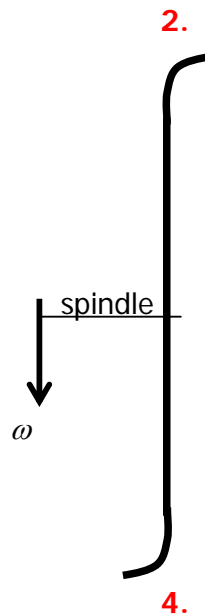
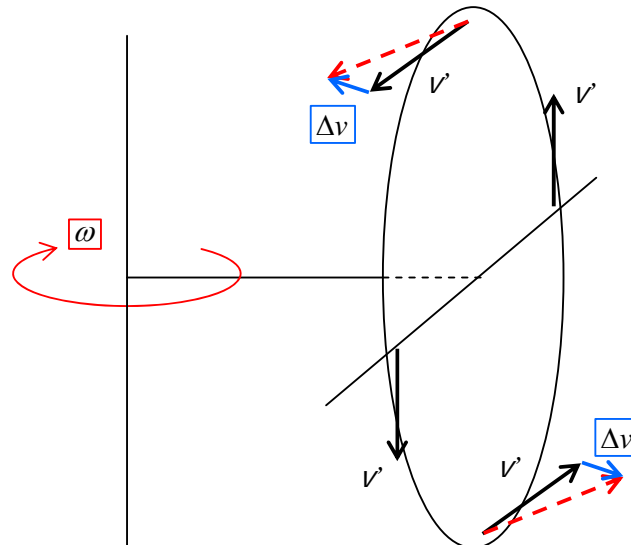

Figure 3
Figure 5
2. v' perpendicular to ω , direction of F_{cor} : see Figure 2A. This F_{cor} adds to F_{cf} . In general $F_{cor} \gg F_{cf}$, so there is a large F pointing outwards, in magnitude almost equal to F_{cor} . (See the result on point 2. in Figure 3).
4. v' perpendicular to ω , direction of F_{cor} see Figure 2 B. $F_{cf} \neq 0$. F_{cor} is opposing F_{cf} . In general $F_{cor} \gg F_{cf}$, so there is a large F pointing inward, in magnitude almost equal to F_{cor} . (See the result on point 4. in Figure 3.)
But due to ω of the demonstrator v' in position 2. and 4. **changes direction** appreciably. **Forces are needed for that.** Figure 5 shows how v' changes direction in position 2. and in position 4.
The two Δv 's in that Figure 5 also show the directions of the forces needed for that. But there are no such forces applied to these positions of the paper since the paper is slack in its material substance. To create this force in the paper a deformation is needed. For that reason the upper part will bend outward and the lower part inward. These directions of deformation correspond with the deformation shown in Figure 3.